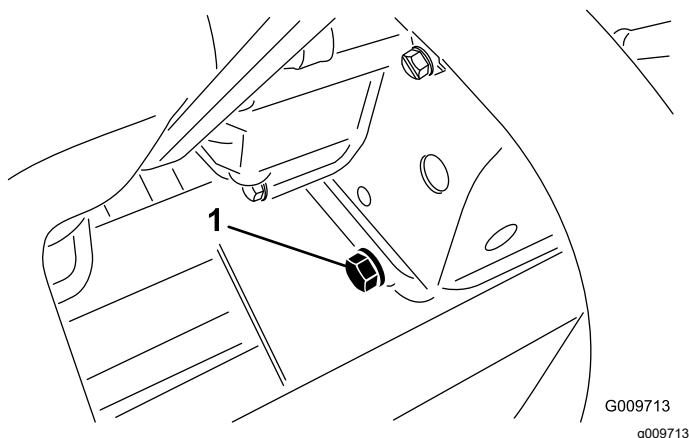

Figure 74
2. Remove the drain plug (Figure 74) and let the oil flow into a drain pan.